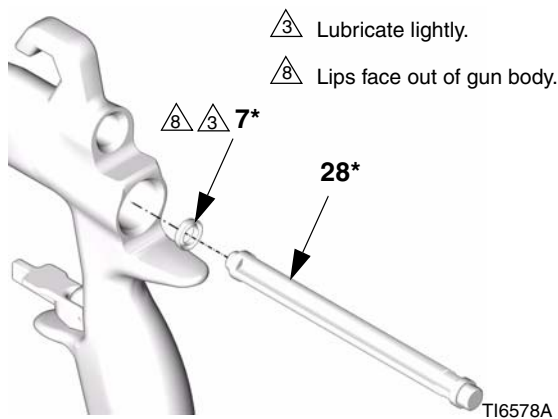

FIG. 42
3. Place the new u-cup (7\*) on the seal installation tool (28\*), with the u-cup lips facing the tool as shown in FIG. 42. Push the u-cup into the back of the gun until you feel a definite snap.